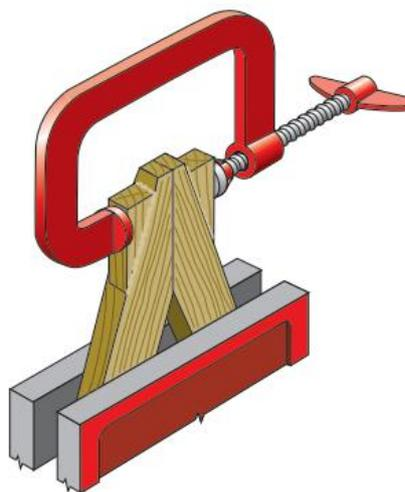

Figure 7.46 Blocks glued to edges of joint with paper separators permit use of G-clamp
- Mitre joints can be clamped with a G-clamp if tapered blocks with paper separators are temporarily glued to the work (24 hours drying time) to provide parallel surfaces (Figure 7.46).